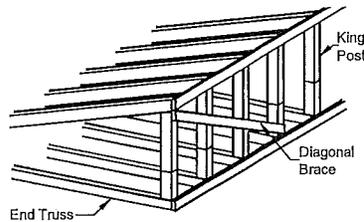

Figure 22. Diagonal bracing
5. **Install Bracing.** Install diagonal bracing at both ends of each home section from the top of the gable end truss approximately 45 degrees downward. Keep trusses plumb and secure the brace with two (2) 7/16" x 1-3/4" x 16 ga minimum staples per truss (**Figure 22**).